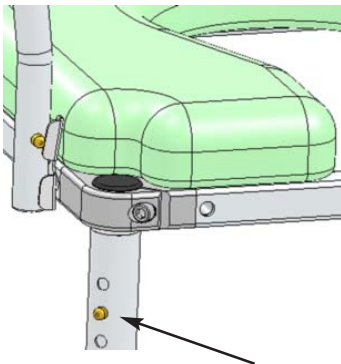

Figure 12
**A Leg Height Adjustment:** When making height adjustments to any of the legs, make sure that the brass buttons are fully engaged into the outer legs. If pushed too hard the button could become stuck inside the inner leg (Contact Nuprodx, Inc. if this occurs). Leg height adjustment should only be made before transferring the user into the chair (Refer to Figure 12).